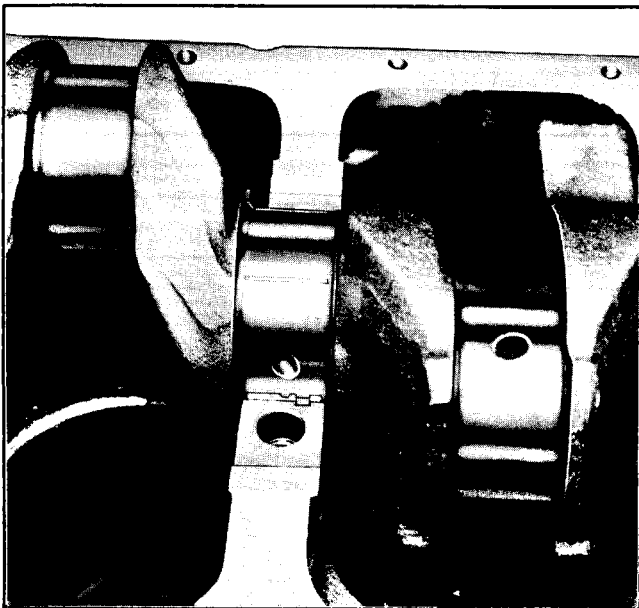

Fig. 6-56 Plastic Gauge on Journal
3. Place a piece of plastic gage, the length of the bearing (parallel to the crankshaft), on the journal or bearing surface (Fig. 6-56). Install the cap and tighten cap bolts to proper torque. (Do not turn crankshaft with plastic gage in place).
2. Place a piece of plastic gage, the length of the bearing (parallel to the crankshaft), on the crankpin or bearing surface (Fig. 6-56). Install the cap and tighten cap bolts 35 lb. ft. (Do not turn crankshaft with plastic gage in place).